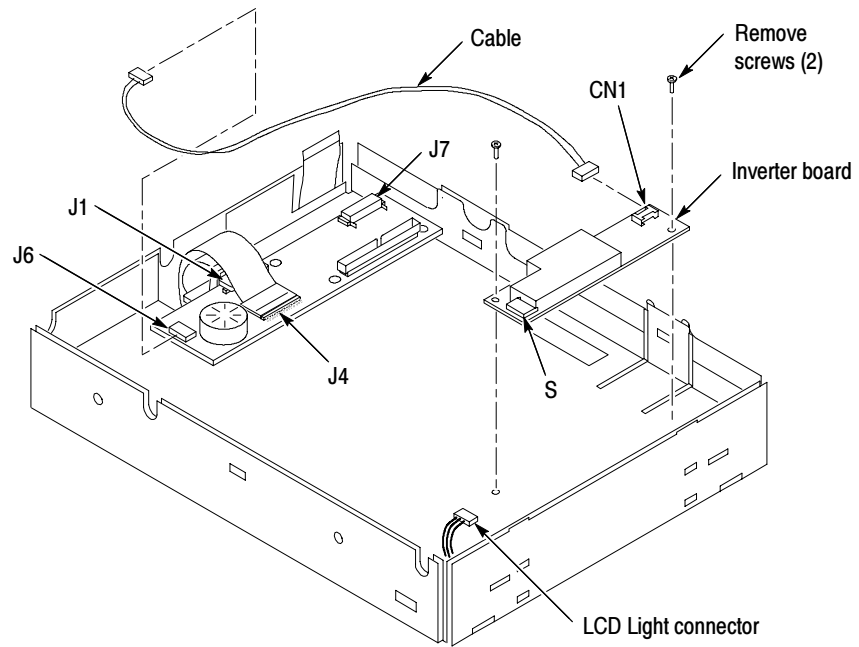

Figure 4: Remove Inverter circuit board
- a. Disconnect cables J1, J4 and J7 from the Display Adapter circuit board. See Figure 4 on page 9.
- b. Disconnect LCD light connector (S) from the Inverter circuit board.